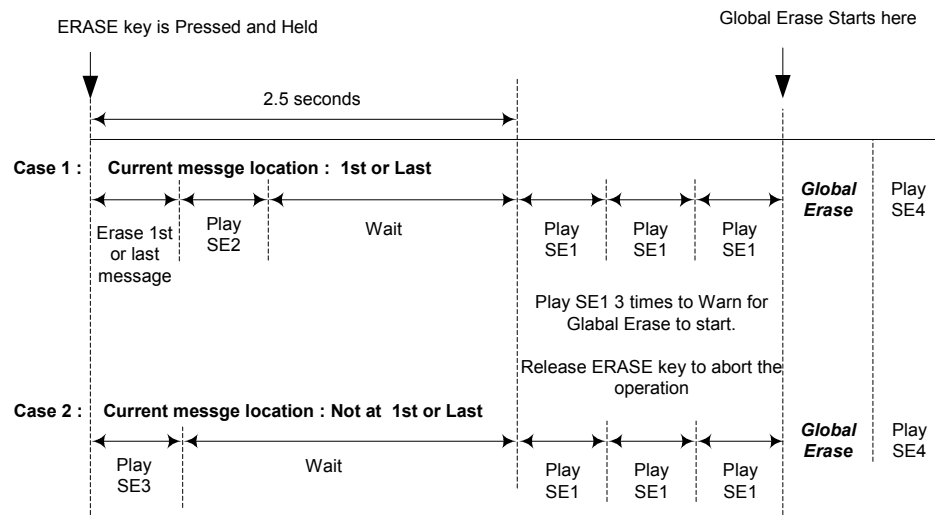

Figure 7.1: Global Erase Operation
- b) **Global Erase:** Level-triggering this pin at Low for more than 2.5 seconds initiates the Global Erase operation and deletes all messages, except the SEs. If SEs are present, the device will play SE1 three times after **ERASE** is held for 2.5 seconds. If **ERASE** is not released during the playback of SE1, all messages will be erased, and the chip will play SE4. See Figure 7.1 for the operation details. The **ERASE** is debounced internally.